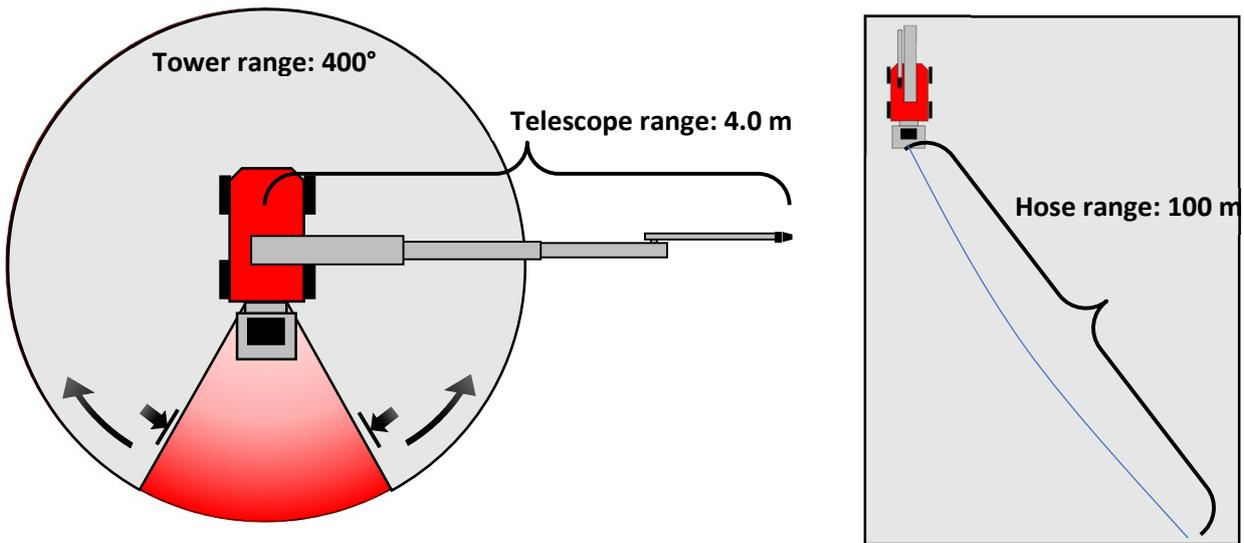

Figure 4, reach of the arm, safe tower working range and hose reach
- During cleaning behind the robot in the marked area in Figure 4, there is a risk of overturning that is dependent on the ground and the position of the boom, telescope and arm. If working in this area the recommendation is to have the telescope in its most retracted position.
The washing arm reach, safe tower working range and hose reach can be seen in Figure 4.